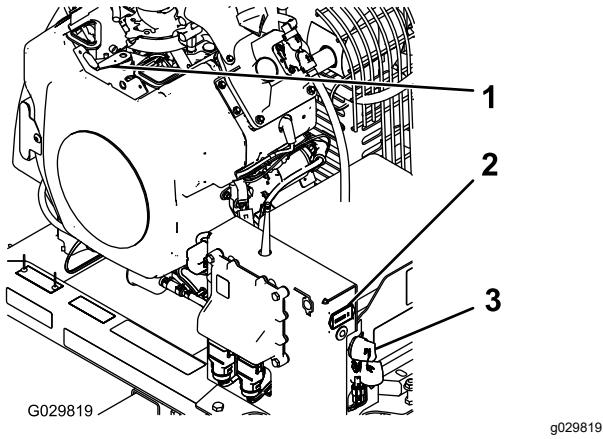

Figure 12
3. Rotate the engine ignition key to the START position (Figure 12).
3. If leaving the machine, rotate the key to the OFF position and remove it from the engine (Figure 12).